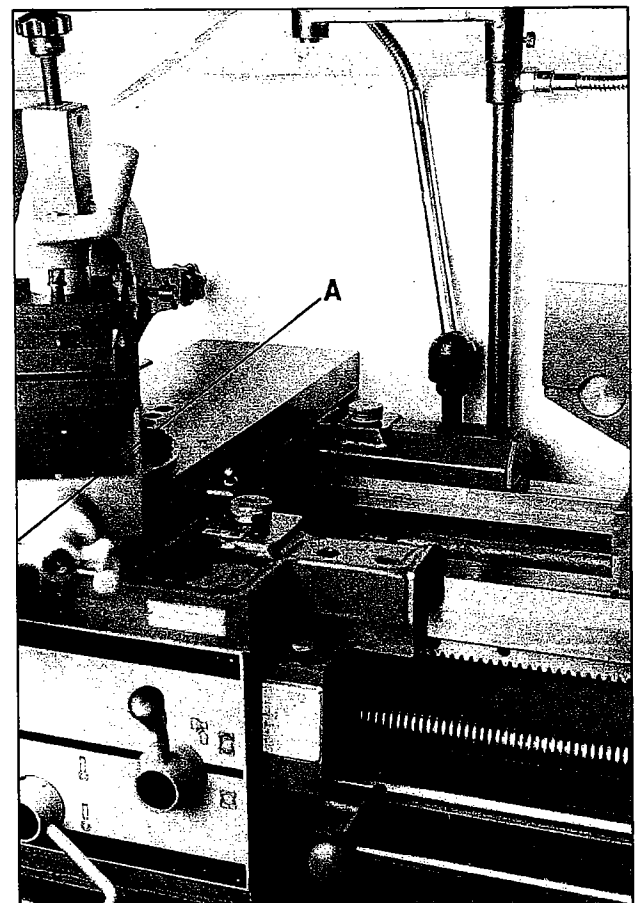

Fig. 27
Follow the same procedure as the cross slide adjustment to adjust the compound rest. Front gib screw (A) is shown in Fig. 27.